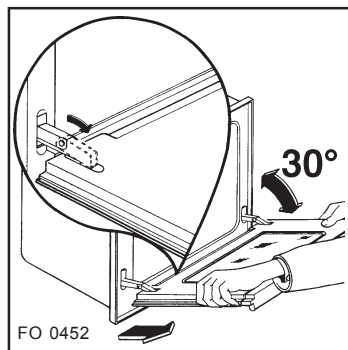

Fig. 7
- open the door completely; lift the small levers placed on the two hinges and turn the levers towards the inside (Fig. 7).